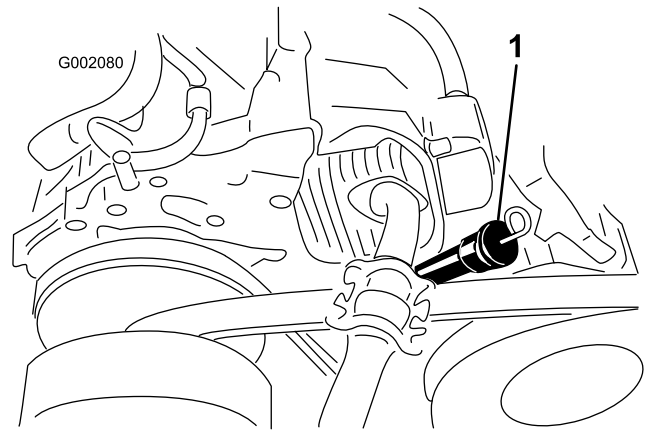
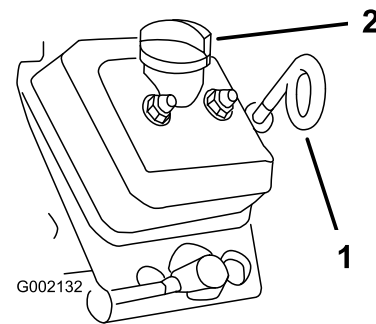

Figure 10
Figure 11
2. Clean around the oil dipstick (Figure 10 for model numbers 07266TC and 07279 and Figure 11 for model numbers 07273/TC) so dirt cannot fall into the hole and damage the engine.